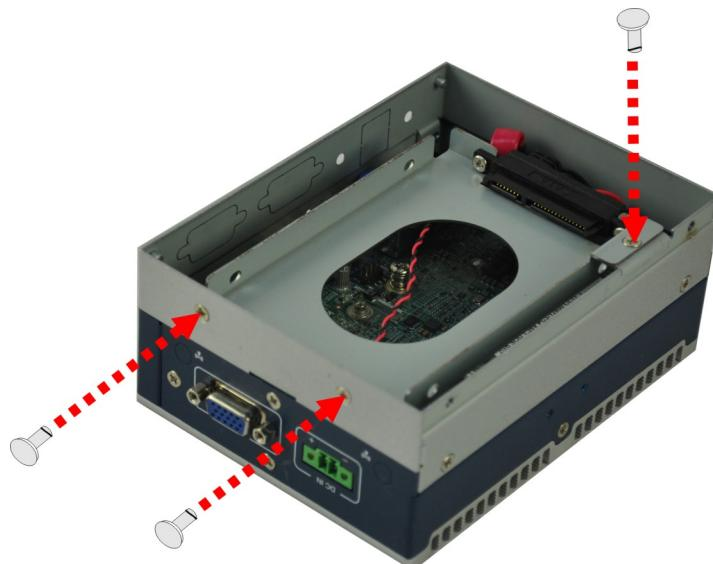

Figure 3-13: HDD Bracket Installation
Step 3: Install the HDD bracket by securing the three retention screws (**Figure 3-13**).